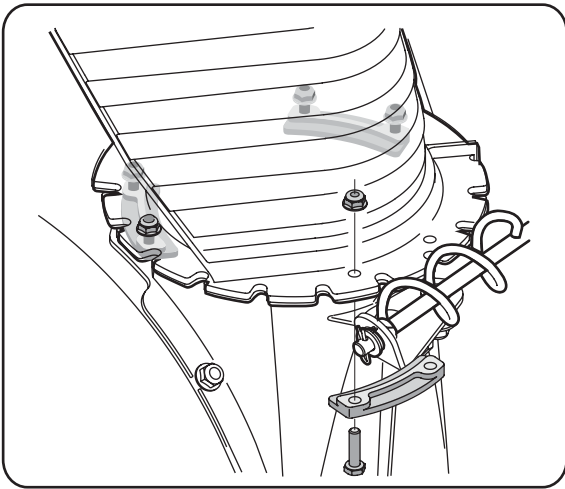

Figure 3-4
- Remove locknuts and screws securing one of the flange keepers to the chute assembly. See Figure 3-4.